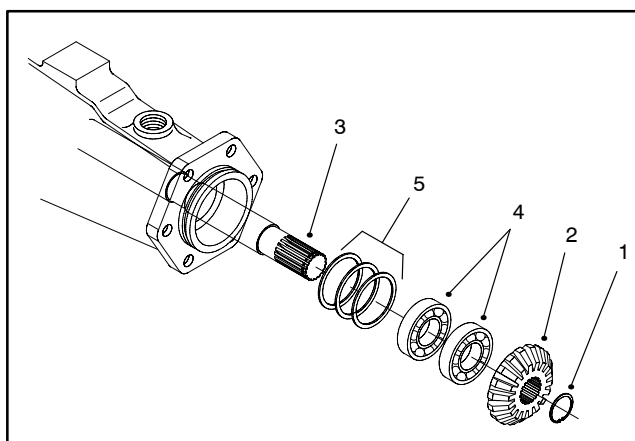

Figure 14
3. Remove the retaining ring and bevel gear (Fig 14).